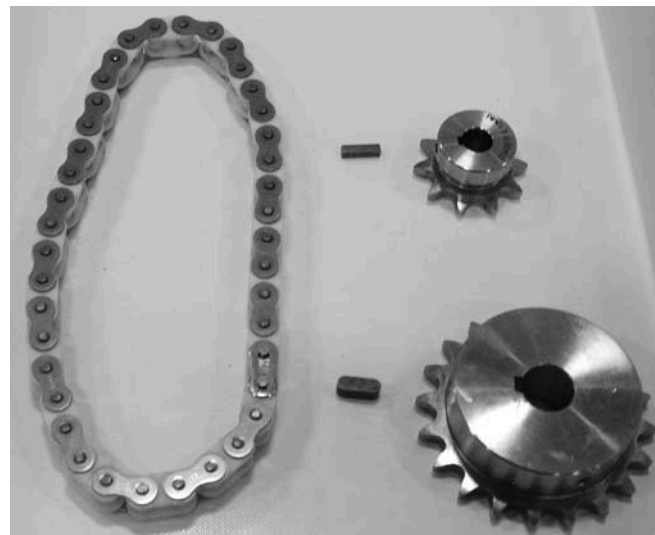

Figure 54
7. Replace components, as needed (Figure 54).